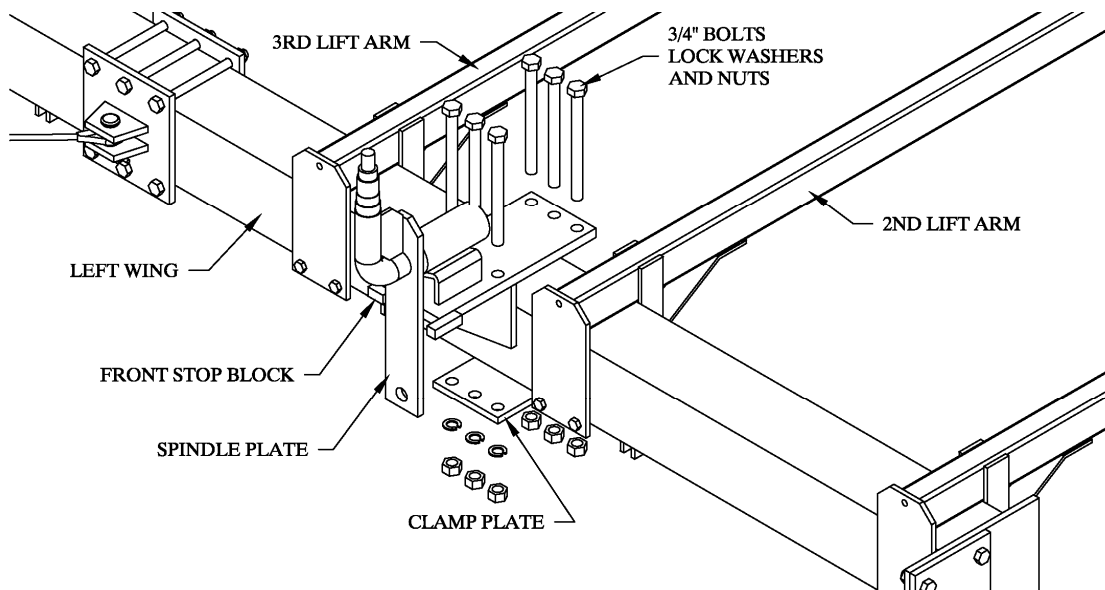

Figure 20
1. Attach the transport wheel axle assemblies to the wings between the 2nd and 3rd lift arms (counting from the field position wing wheel end of the wings). Use 3/4" x 10" bolts, lock washers, and hex nuts. If installing the Hydraulic Transport option, be sure to mount it 10" from the flat edge of the hydraulic transport cylinder post. Refer to Figure 20. Note that there are right and left hand transport axle assemblies. When the spindle is orientated in the vertical direction (field position) as shown in Figure 20, the spindle plate should be in contact with the front stop block.